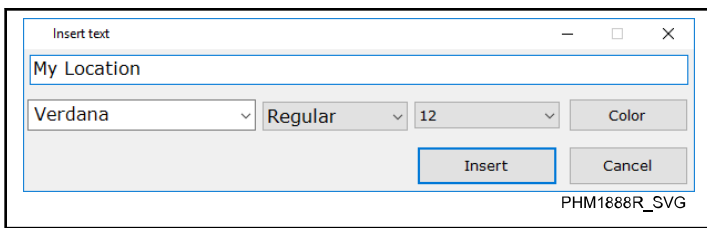

Figure 57
6. To add text to the layout, click the **Insert Text** button. The "Insert Text" window appears. Refer to *Figure 57* .